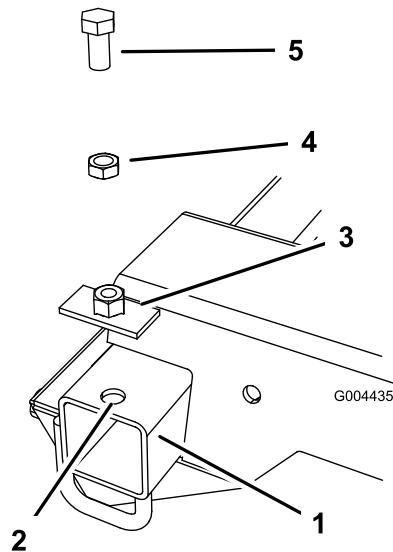

Figure 3
1. Line up the weld plate with end of the frame (Figure 3). Use a transfer punch to mark the center hole of the plate and remove the plate.
2. Drill a pilot hole in the top of the boxed frame tube at the spot marked by the punch (Figure 3). Enlarge the hole to a minimum diameter of 1/2 inch and a maximum diameter of 5/8 inch.